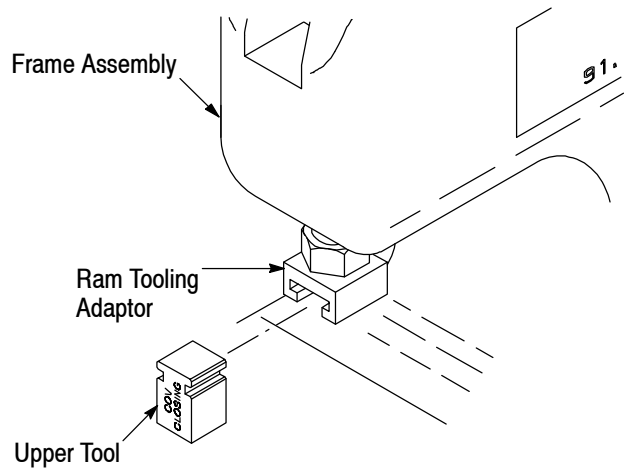

Figure 2
1. Push the upper tool into the ram tooling adapter of the frame assembly. See Figure 2.